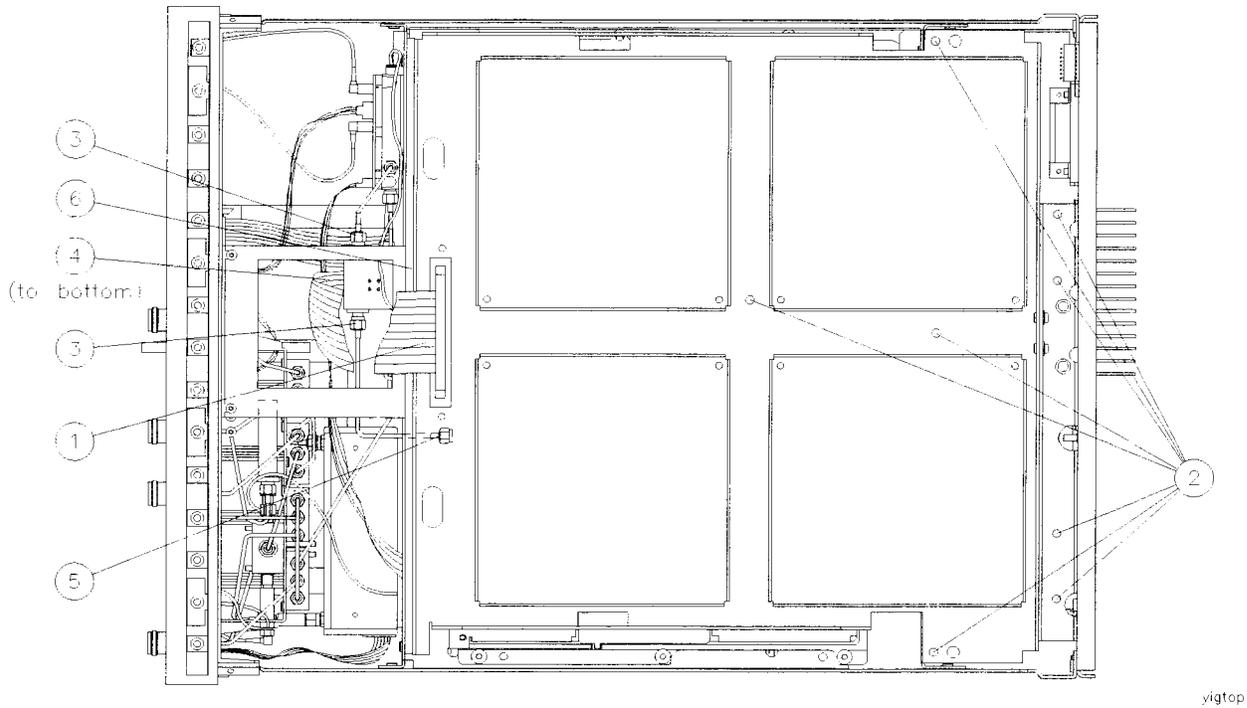

Figure 4-19 *A15 YIG Replacement, Top View*
3. Disconnect the ribbon cable from the J5 connector on the front strut (1). Refer to Figure 4-19 on page 4-39.
4. Remove eight screws on the front to access the components beneath the top lid (2).
5. Disconnect the two semi-rigid cables from both sides of the A15 YIG (3).
7. Disconnect the cable that goes to J5 on the A11 processor board (4).
8. Disconnect the YIG cable assembly from J9 on the top deck motherboard (5).
11. Remove the screw that secures the YIG to the chassis (6).
3. Replace the screw that secures the YIG to the chassis (6). Refer to Figure 4-19.
6. Connect the YIG cable assembly from J9 on the top deck motherboard (5).
8. Connect the cable that goes to J5 on the A11 processor board (4).
9. Connect the two semi-rigid cables on either side of the YIG (3).
10. Replace the eight screws on the front (2).
11. Connect the ribbon cable to the J5 connector on the front strut (1).